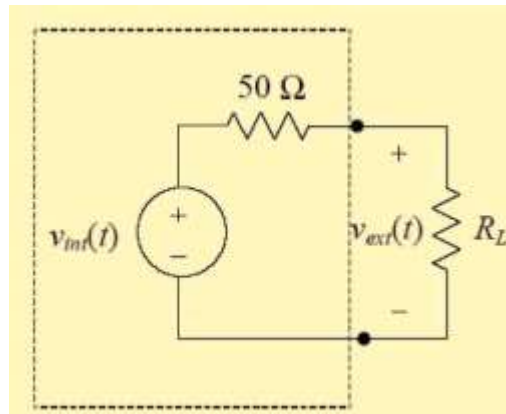

Figure 9: The internal **50- Ω** matching resistor in your function generator and the external load resistance R_L , when connected.
Now, let us turn to the function generator. There is a **50 Ω internal resistor** connected in series with the oscillating voltage source inside the function generator (Figure 9). The purpose of the internal resistance is to have **impedance matching** to 50 Ω , especially important for radiofrequency (RF) circuits to minimize signal losses via reflections. Therefore, if you connect the function generator to an external resistor **RL (LOAD resistor)**, it will form a **voltage divider** with the 50 Ω resistor.